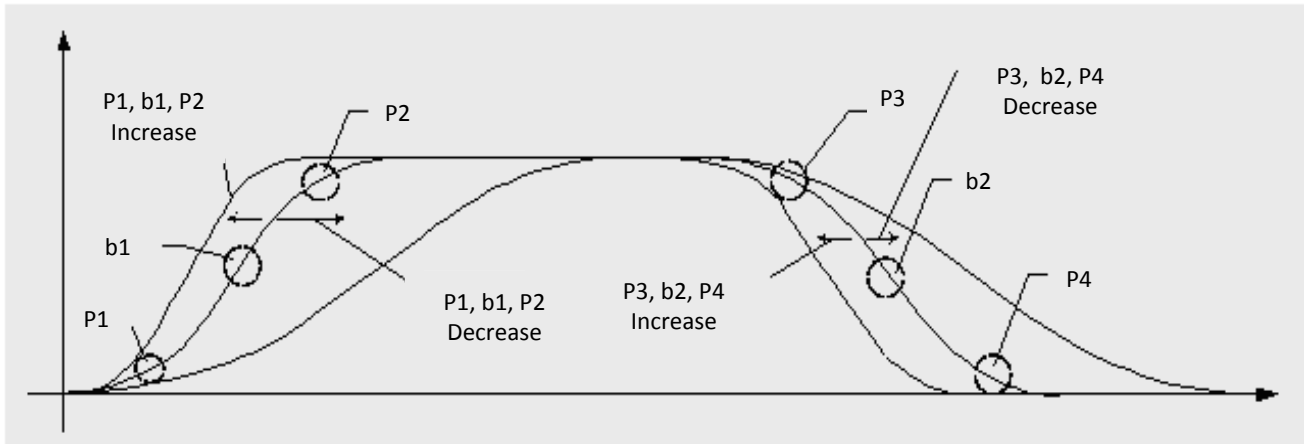

FIGURE 6.2 PARAMETERS ADJUSTMENTS FOR SPEED CURVE
- ✧ Elevator running comfort level can be set through the above 6 parameters. (Comfort level is also related to the drive control parameters.) The relationship between **b1**, **b2**, **P1**, **P2**, **P3**, **P4** and running curve are shown in Figure 6.2.